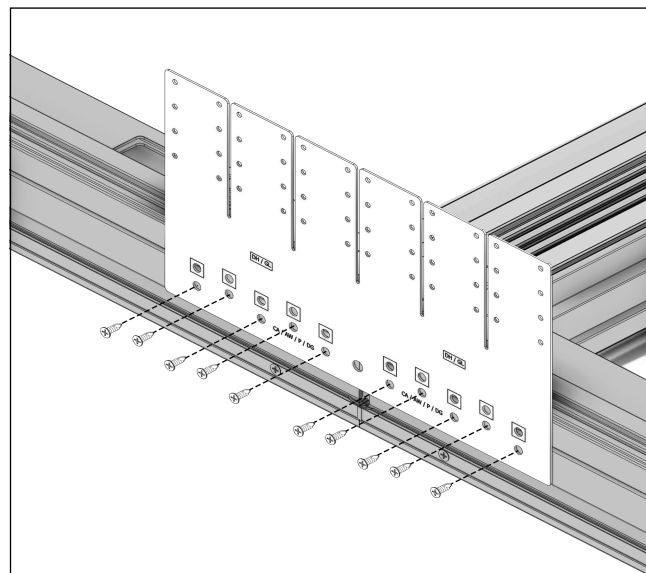

Figure 5 Fasten full gusset
4. Fasten full gusset plate(s) with the supplied #7 x 1/2" flathead screws. Do not over-tighten. See Figure 5.